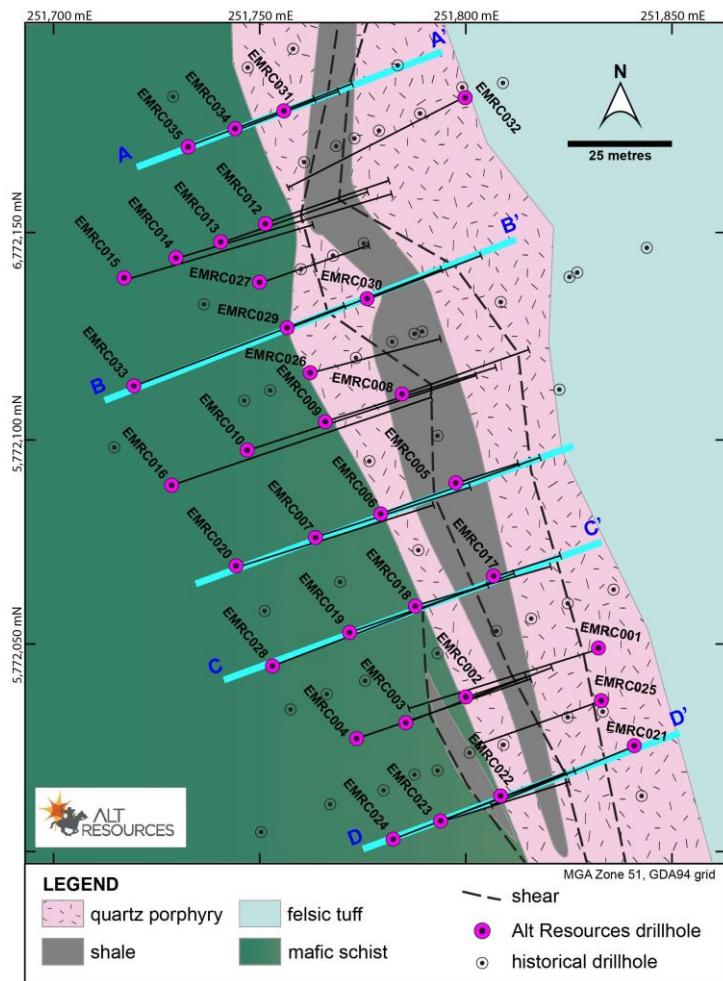

Figure 3. Plan map of new drilling at the Emu Deposit, Bottle Creek, with sections labelled as shown in this announcement (Figure 1 to 2).
Figure 1 - 2 show cross-sections with new drilling and significant intercepts through the Emu Deposit. The location of new drillholes discussed in this release is given in plan view in Figure 3. The cross-sections show the broad intercepts through the mineralised zone and the possibility for continuity of mineralisation at depth in some cases (Figure 2). High grade cores are evident within broader moderate grade intersections, such as **6m @ 19.31 g/t Au including 2m @ 51.70 g/t Au** in drillhole EMRC024, section D-D' (Figure 2).
**Figure 1.** Cross-sections A-A' and B-B' through the Emu Deposit, Bottle Creek. The location of the sections is shown in the plan map (Figure 3). New drilling results from this announcement are labelled in orange, whilst historical intercepts from Electrolytic Zinc are labelled in yellow (open file EZ 1985-1986 annual report a18217).
Figure 2. Cross-sections C-C' (left) and D-D' (right) through the Emu deposit. Section locations are shown by the blue lines in Figure 3. Significant intercepts as listed in Table 1 are shown. New drilling results from this announcement are labelled in orange, whilst previously announced intercepts3 are labelled in yellow. Mineralisation in section C-C' is interpreted to be open at depth, based on the broad, deep intersection in drillhole EMRC028.